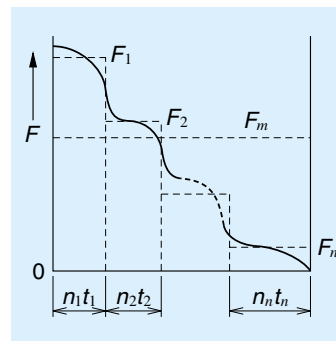

Fig. II-5-1 Stepwise load variation
1. When load and rotational speed shift stepwise (Fig. II-5-1)